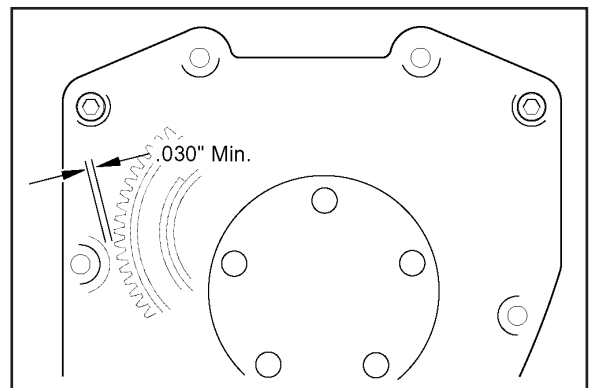

Figure 5
- Q. Press a small piece of clay or kneadable putty on cam cover mounting boss shown. **See Figure 5 previous page.** Carefully hold cover and cover gasket in position against crankcase. Install mounting bolts (4) near corners of cover finger tight. Push or tap cam cover towards front of engine.